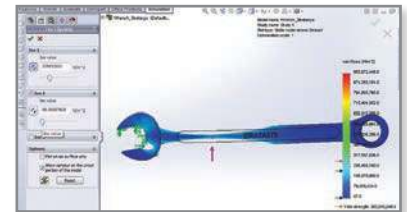

Figure 6: Combining Iso 1 and Iso 2 displays a range of values.
STEP 6: Repeat STEPS 1 – 5 for subsequent shell color ranges by using both Iso 1 and Iso 2 to create a value range (Figure 6).